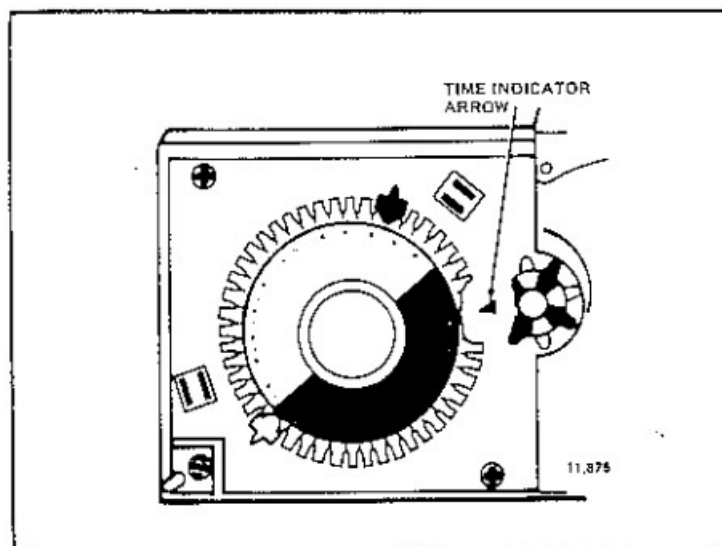

Fig. 7—Set timer on models with conventional recovery.
- When time is correctly set, the Time Indicator Arrow (Figs. 7 and 8) must point to the corresponding daytime (light) or nighttime (dark) portion of the program dial.